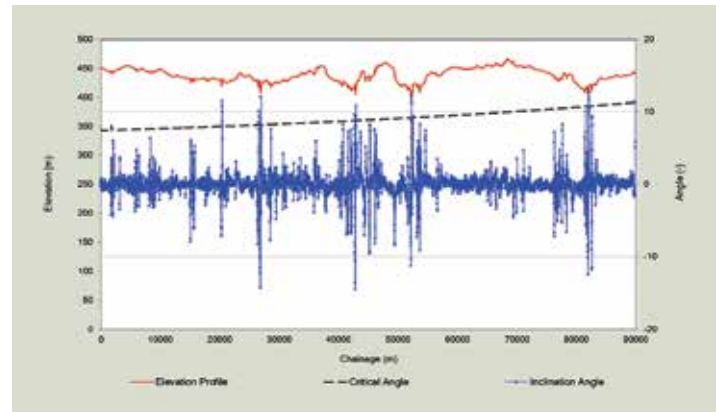

Figure 2. Elevation vs Inclination Based Graph on ICDA.
Figure 2 shows an elevation vs inclination graph based on the Dry Gas (DG) ICDA approach. Elevation profiles can be drawn based on pipeline alignment drawings. Inclination angle is the angle formed by the pipeline segment relative to a horizontal plane.